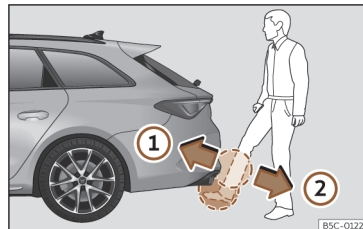

Fig. 90 Rear lid with sensor-controlled opening (Easy Open).
»» Fig. 90 ①.
- Quickly remove your foot and lower leg from the sensor areas»» Fig. 90 ②. The rear lid will be automatically opened.